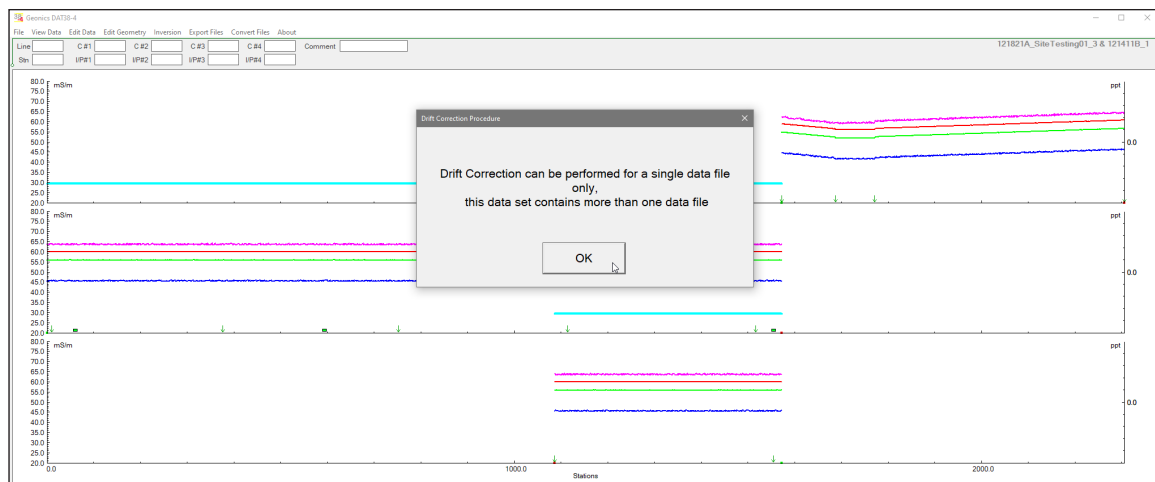

Figure 4.18 Warning message displayed when more than one data files are loaded and Drift Correction is attempted
- The Drift Correction procedure cannot be applied to appended data sets (using **Add DAT38-4 Profile File**). A message will appear if multiple data files are loaded (Figure 4.18). In such cases, perform drift correction on each file separately, then use the **Add DAT38-4 Profile File** function to combine them into a single data set.